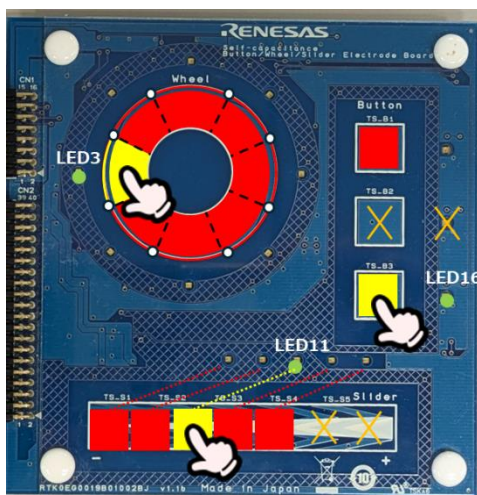

Figure 5.11 Example operating range of touch button electrode
*For details on which LED corresponds to each electrode, see Figure 5.11.